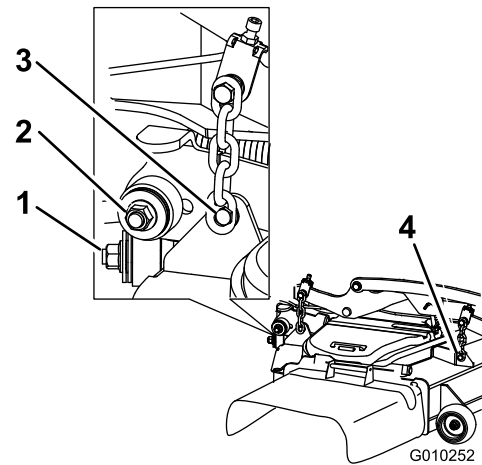

Figure 120
7. Remove and retain the hardware on both sides of the deck as shown in Figure 120.